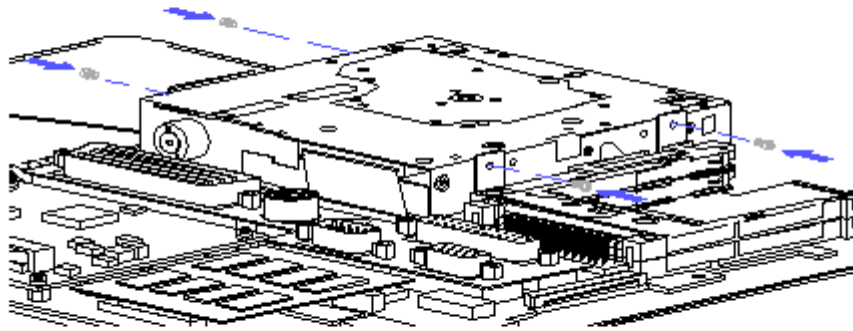

Figure 3-59. Installing the Diskette Drive Mounting Screws
3. Install the four T-8 Torx slotted mounting screws (Figure 3-59).